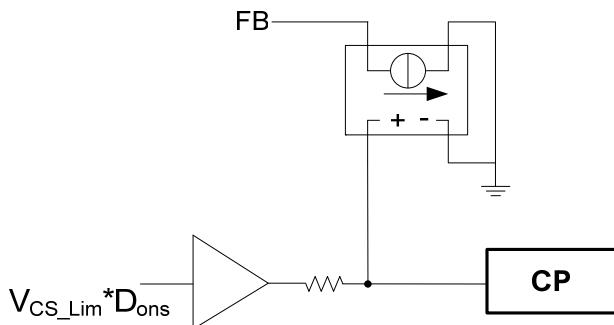

Figure 10: Output Cable Compensation
The MP023 has an internal output cable compensation (CP) circuit (see Figure 10). A switching signal ($V_{CS_Lim} \cdot D_{ons}$) is generated internally and is synchronized with the switching frequency. The duty on-time of this signal is D_{ons} , and the amplitude of this signal is proportional to the current-limit threshold. This signal is output to CP through a 1Ω resistor. A low pass filter can be implemented by placing an external capacitor on CP, and then a DC voltage (V_{CP}) proportional to the output current can be deducted on CP. Note that if cable compensation function is needed, D_{S_Max} is default as 0.4 and can't be programmable by connecting external CP resistor.